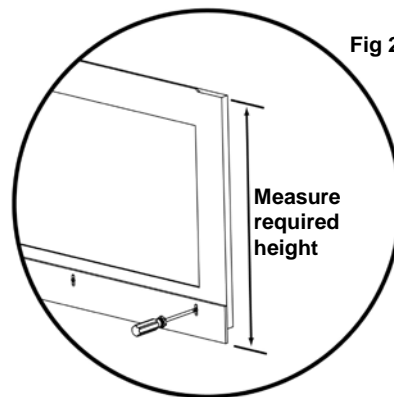

Fig 2
4. The bath panel is supplied with pre-assembled height adjustable plinths which can be removed if not required. Measure from the main flat area on the top of the panel (not the thin raised lip area that locates under the rim of the bath) down to the bottom of the plinth and tighten up the three bolts. Ensure there is no gapping at the centre between the plinths when the second plinth is attached. Fig 2